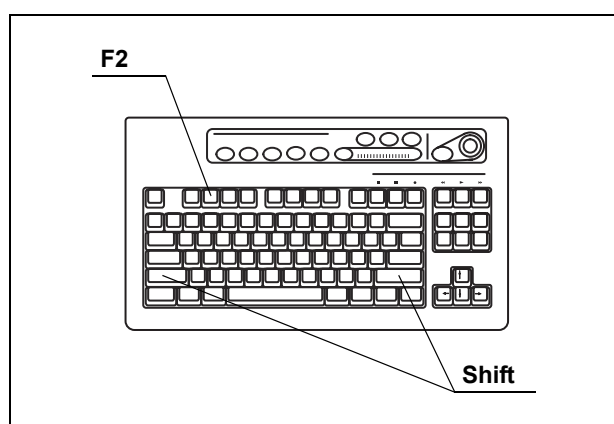
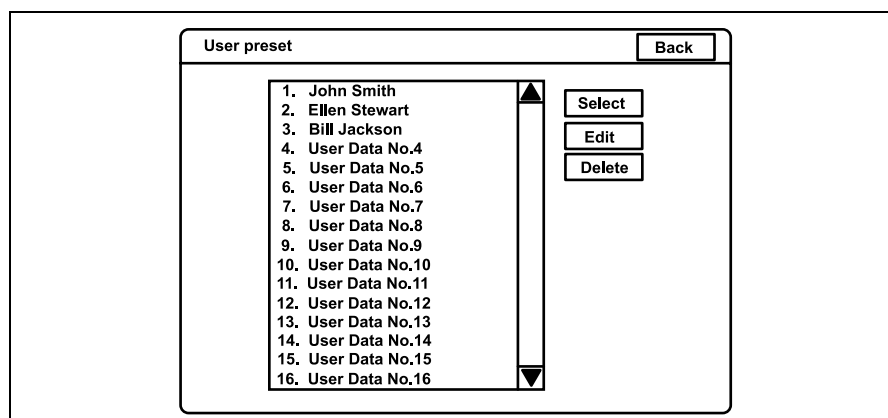
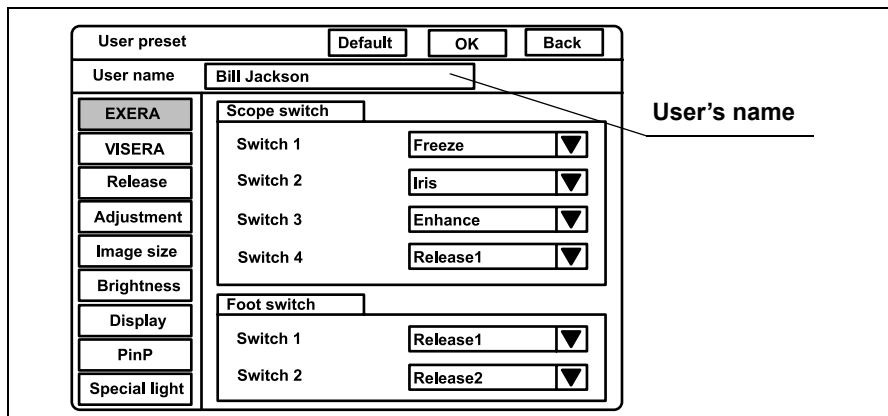

Figure 9.12
Figure 9.13
Figure 9.14
1. Press the "Shift" and "F2" key together (see Figure 9.12). The "User preset" menu appears on the monitor (see Figure 9.13).
3. Click "EDIT" on the right side of the screen (see Figure 9.13). The edit screen of the user preset menu appears (see Figure 9.14).